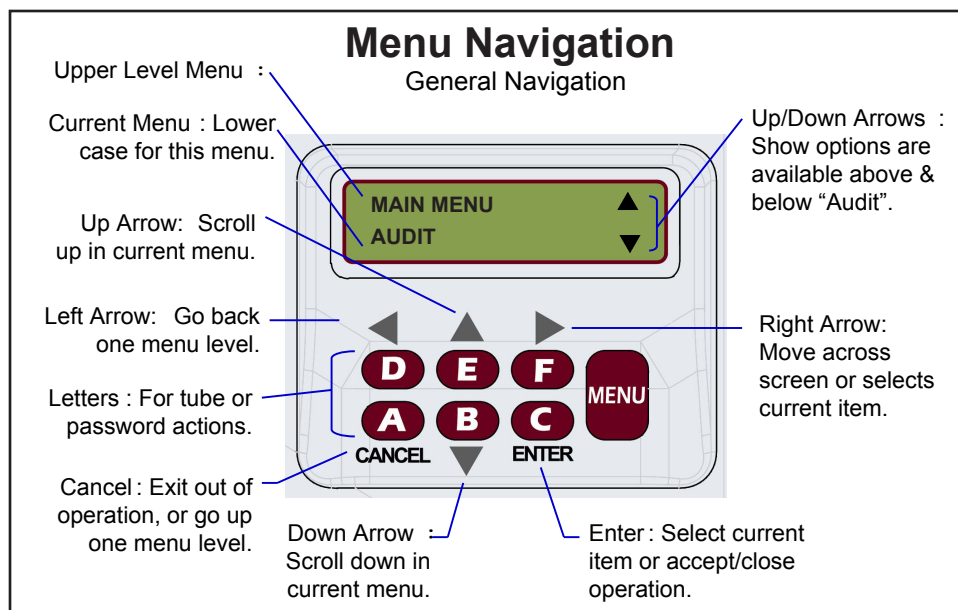

Figure 8
11. Pay out at least two coins from each tube to ensure proper operation. Press each coin tube Inventory Button (See Figure 8) to dispense coins.